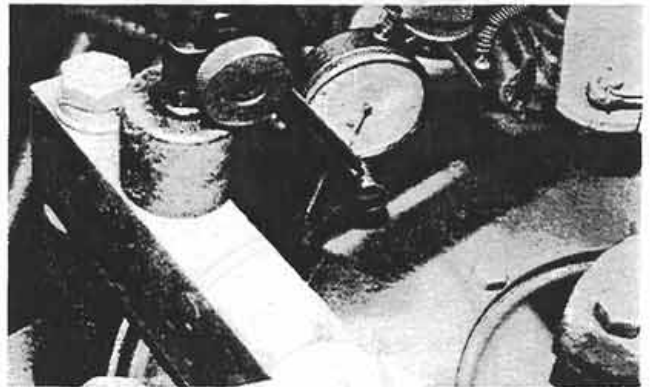

Figure 1:
1. With the upper driveline disconnected, mount a dial indicator on one of the brake mount bars (Fig. 1) and turn the brake disc to check for excessive runout. If runout exceeds .030 inch (.76 MM), replace the brake disc.